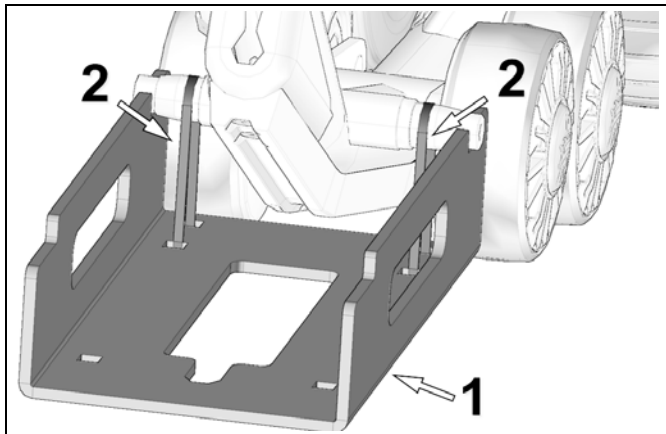

Figure 37
Use Camoplast alignment tool #2000-00-1999 (item 1 on Figure 37) to align tensioner by means of the following procedure:
Attach the alignment tool to wheel axle nearest to tensioner assembly using the provided tie wraps (2). Refer to Figure 37.